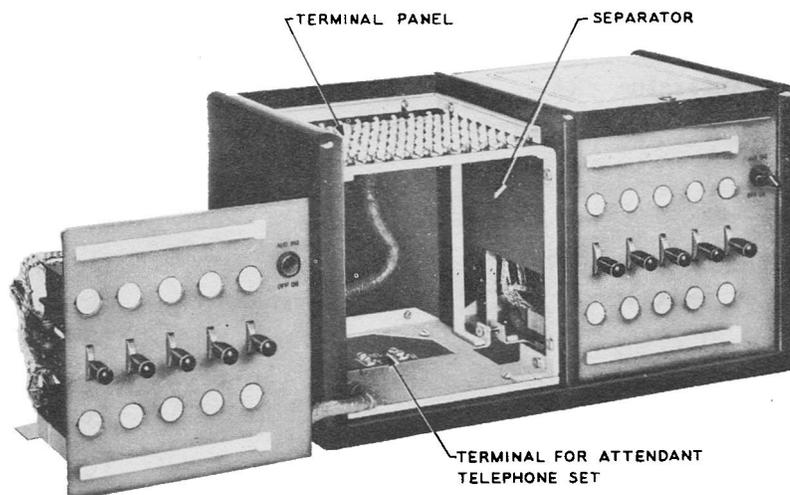

Fig. 5 — J53011B Key Box, Left Faceplate Removed
4. Insert a separator between the old and new key boxes as shown in Fig. 5, and couple the assembly.